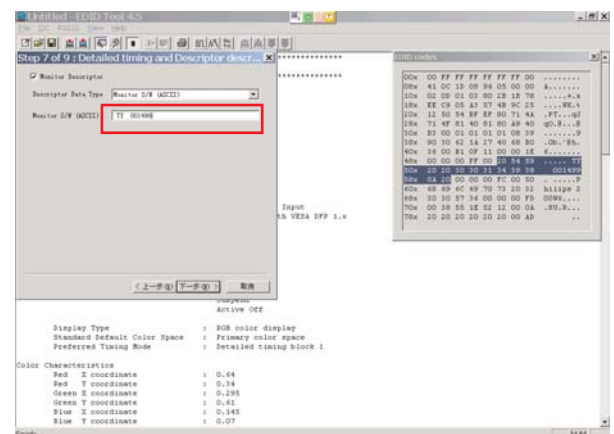

Fig. 23
2. Click Next to step7, bring up Fig. 23.